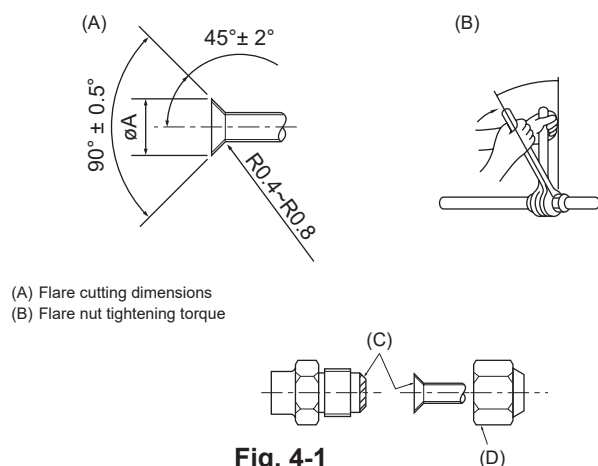

Fig. 4-1
(A)(Fig. 4-1)
(B)(Fig. 4-1)
### 4.2. Connecting pipes (Fig. 4-1)